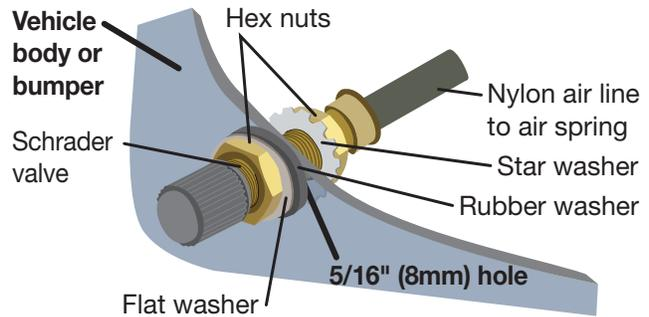

Fig. 25
3. Install the Schrader valve in the chosen location (Fig. 25).